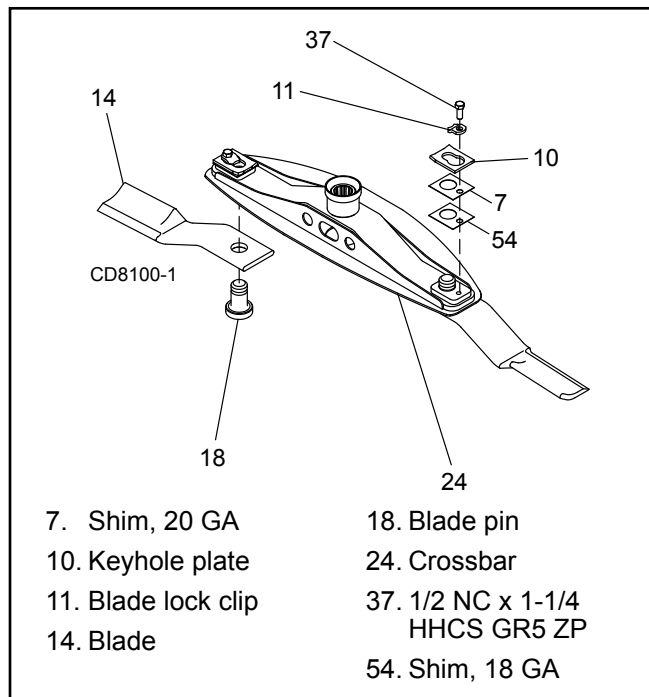

Figure 7. Blade Assembly
(Figure 7)
3. Loosen six 10 mm cap screws (6) to remove all tension from Belleville spring plate (5).
4. Hold clutch hub (3) solid and turn shaft to make sure clutch slips.
5. If clutch does not slip freely, disassemble and clean the thrust plate faces (4), flange yoke (1), and clutch hub (3).
7. Tighten Belleville spring (5) until it is against the thrust plate (4) of the clutch, and then back off each of the six nuts by 2 full revolutions. The gap between Belleville spring and thrust plate should be 1/8" as shown in Figure 7.
8. If a clutch continues to slip when the spring is compressed to 1/8" gap, check friction discs (2) for excessive wear. Discs are 1/8" when new. Replace discs after 1/16" wear. Minimum disc thickness is 1/16".